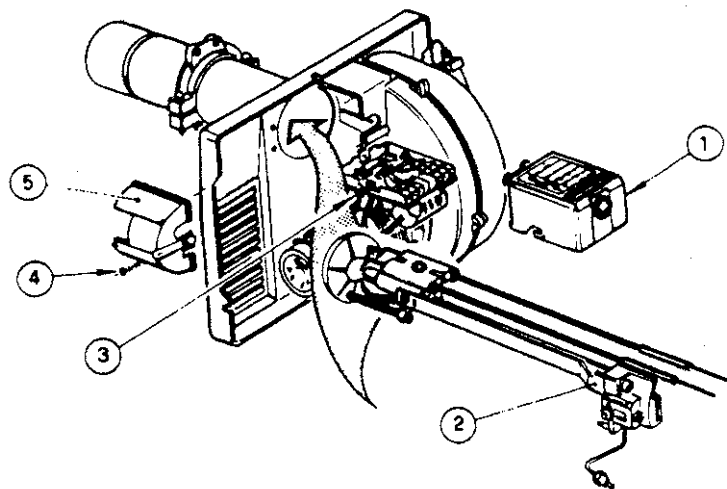

Figure 23: Installation/Removal of Drawer Assembly
2. Installation/Removal of Drawer Assembly, Refer to Figure 23.